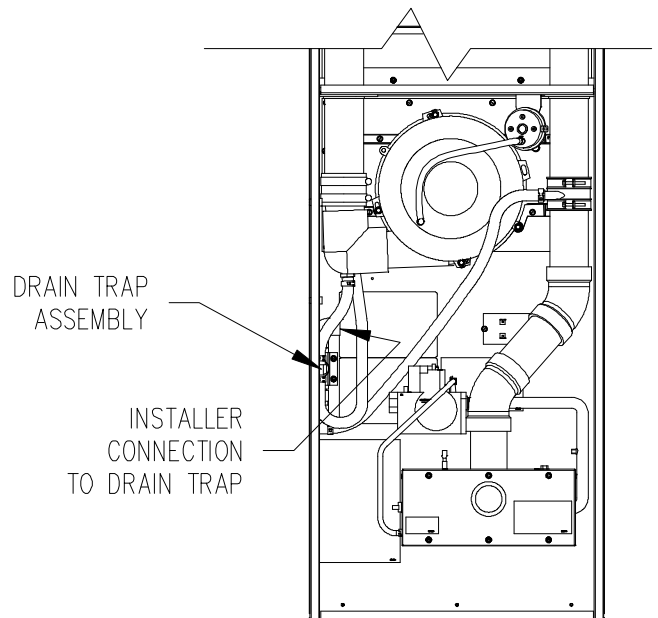

Figure 14.
1. Figure 14 illustrates the typical drain trap connection for a CMA/CMC furnace. (Trap will be installed at factory.) Connect condensate drain trap to building drain system.